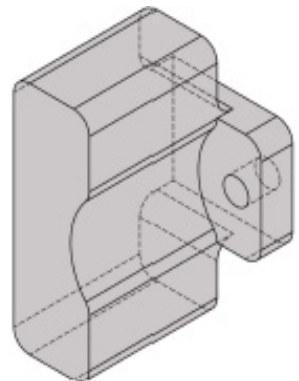

FIG.21
- Once the sliding door track has been fitted and held in place, the wall anchor blocks can be moved into position towards the wall (FIG 21).